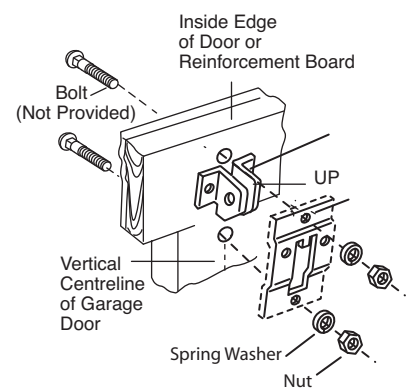

Figure 4
- Use top and bottom or side to side door bracket holes. Drill 8 mm holes through the door and secure bracket with 8 mm carriage bolts, spring washers and nuts (not provided) (Figure 4).